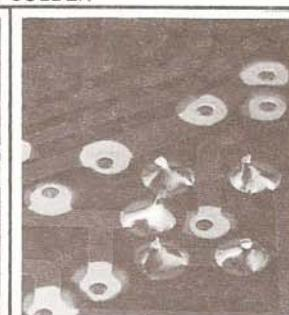

FIG. 7 CORRECT
9. REMOVE THE IRON FROM THE CONNECTION - Once you've formed a good concave solder connection with a bright finish (See Fig. 7), remove the iron from the connection in a smooth motion. DO NOT allow the component lead to move until the solder has cooled to a solid condition.